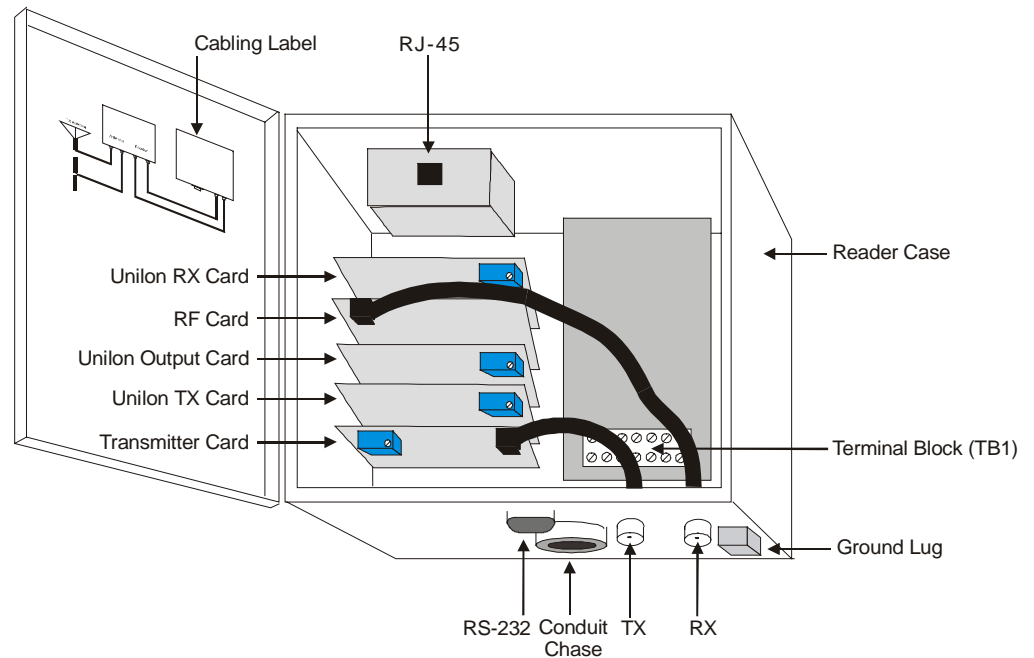

Figure 37 Reader Transmitter Card
- Step 3:** Place a Tag (ensure that the tag is programmed into the system if appropriate – i.e., for Wiegand control panels) directly on top of the transmitter board in the Reader case. (Figure 37).